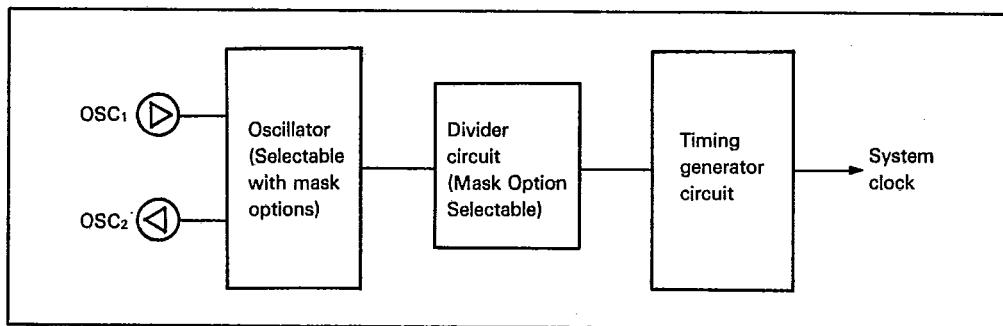
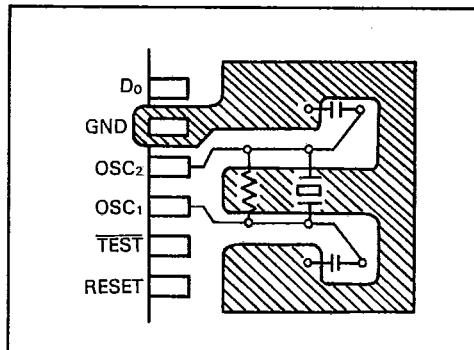

Figure 12. Internal Oscillator Circuit
Figure 13. Layout of Crystal and Ceramic Filter
Figure 12 outlines the internal oscillator circuit. Through mask option, either crystal oscillator or ceramic filter oscillator can be selected as the oscillator type. Refer to table 15 for selection of the type. In addition, see figure 13 for the layout of the crystal or ceramic filter. In all cases, external clock operation is available. Three divide ratios, 1/16, 1/8, and 1/4, are selectable via mask option (table 14).
2. Wiring between OSC1, OSC2, and elements should be as short as possible, and never cross the other wires. Refer to the layout of crystal and ceramic filter (figure 13).